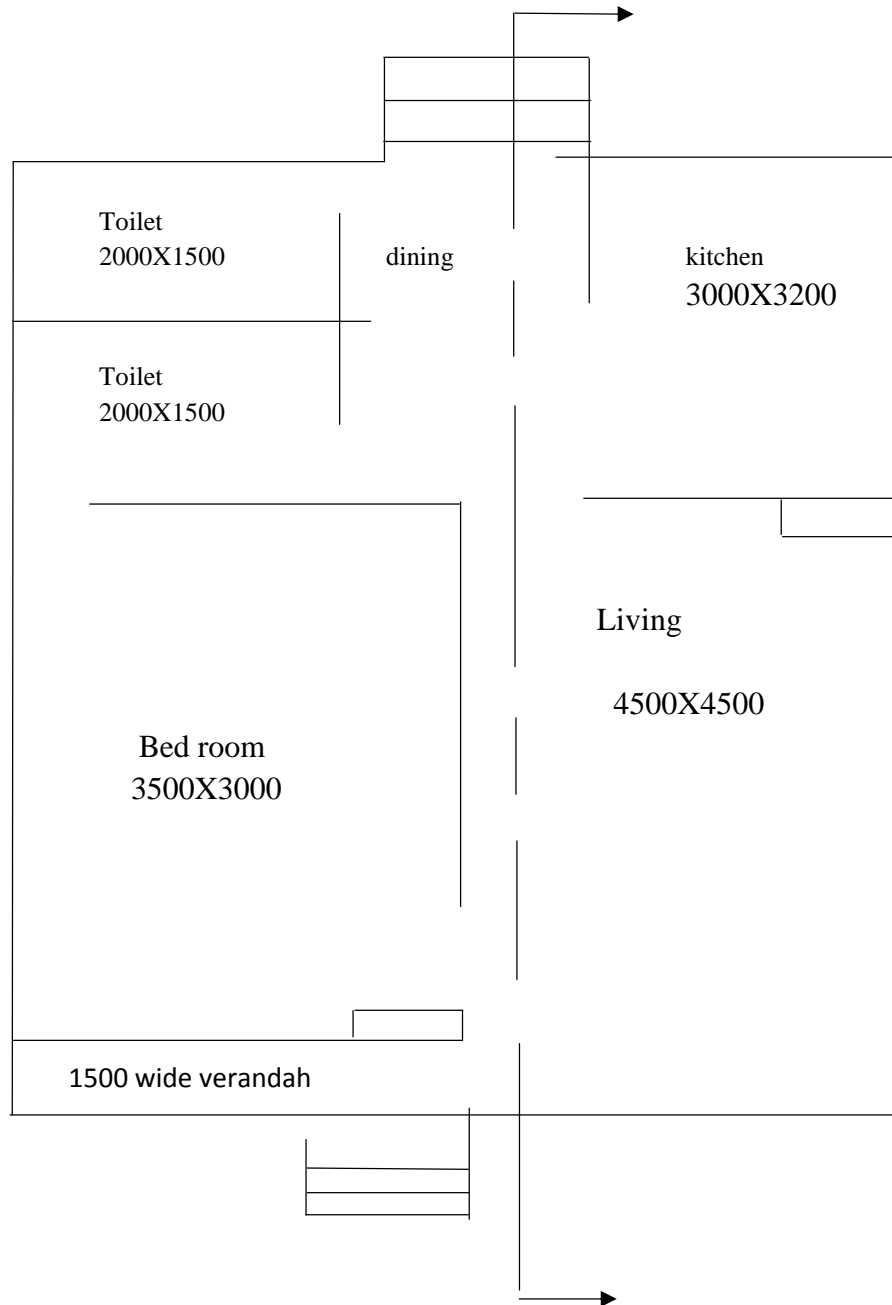

Figure 1
5. a) Draw neat sketches to indicate the conventional signs for the following. (8)
- b) The line plan of a residential building is shown in Figure 1. Draw